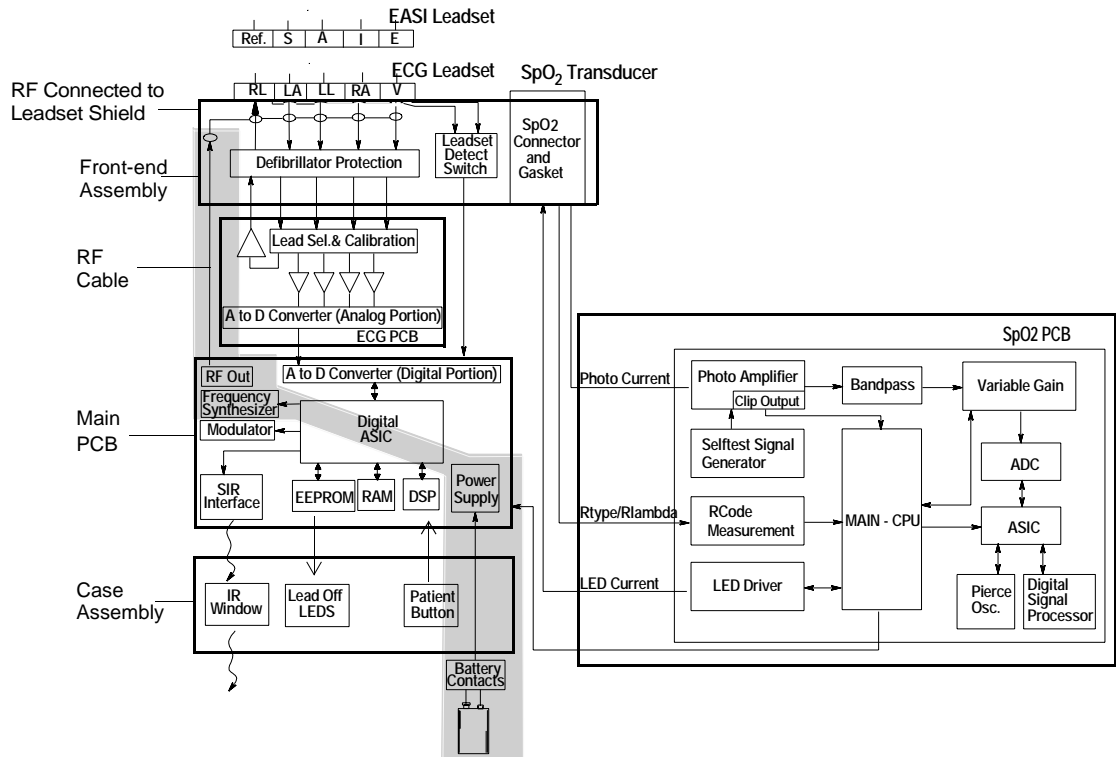

Figure 4-9 NO SIGNAL/WEAK SIGNAL INOP
These symptoms indicate that the signal being received has invalid or corrupted RF data and the signal strength is not at an acceptable level. The shaded area in Figure 4-9 shows the area in the transmitter where the fault is probably occurring, although the problem may lie in the receiver mainframe or elsewhere.
- a. If the problem remains with Transmitter A, Transmitter A is faulty and should be repaired. Refer to Figure 4-9. The shaded area shows the area in the transmitter where the problems is probably occurring.